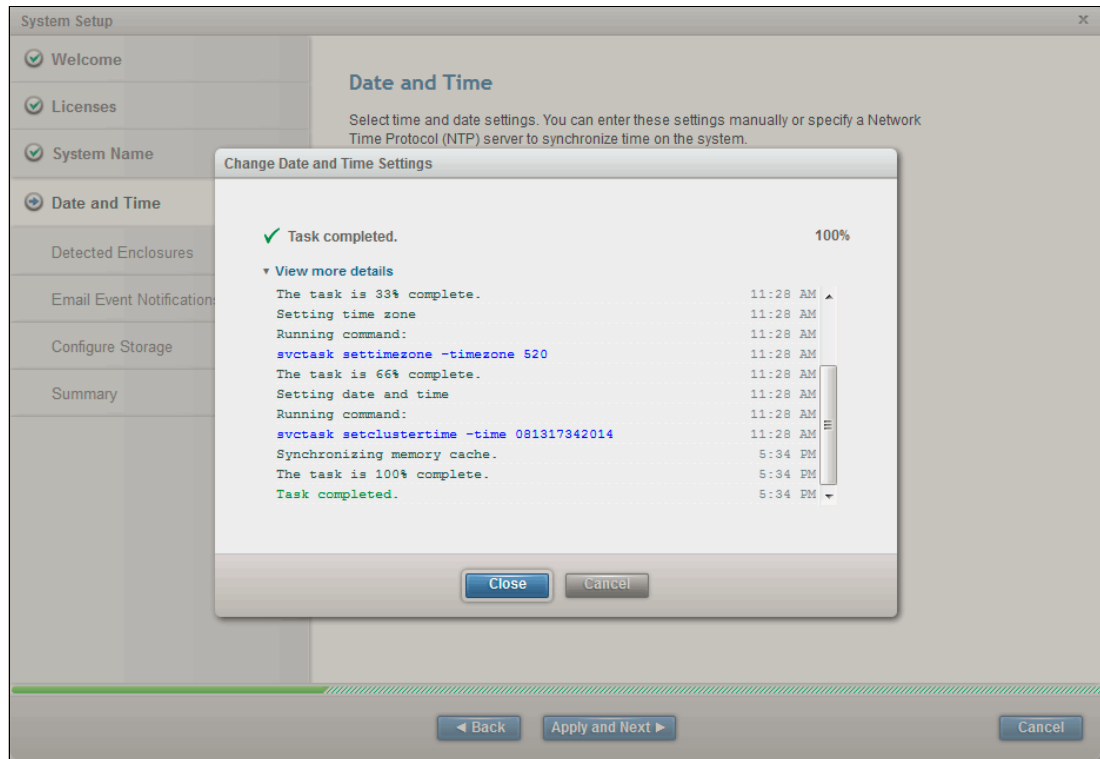

Figure 5-17 Applying Date and Time
10. Click **Apply and Next**. The system configures the Date and Time, as shown in Figure 5-17.